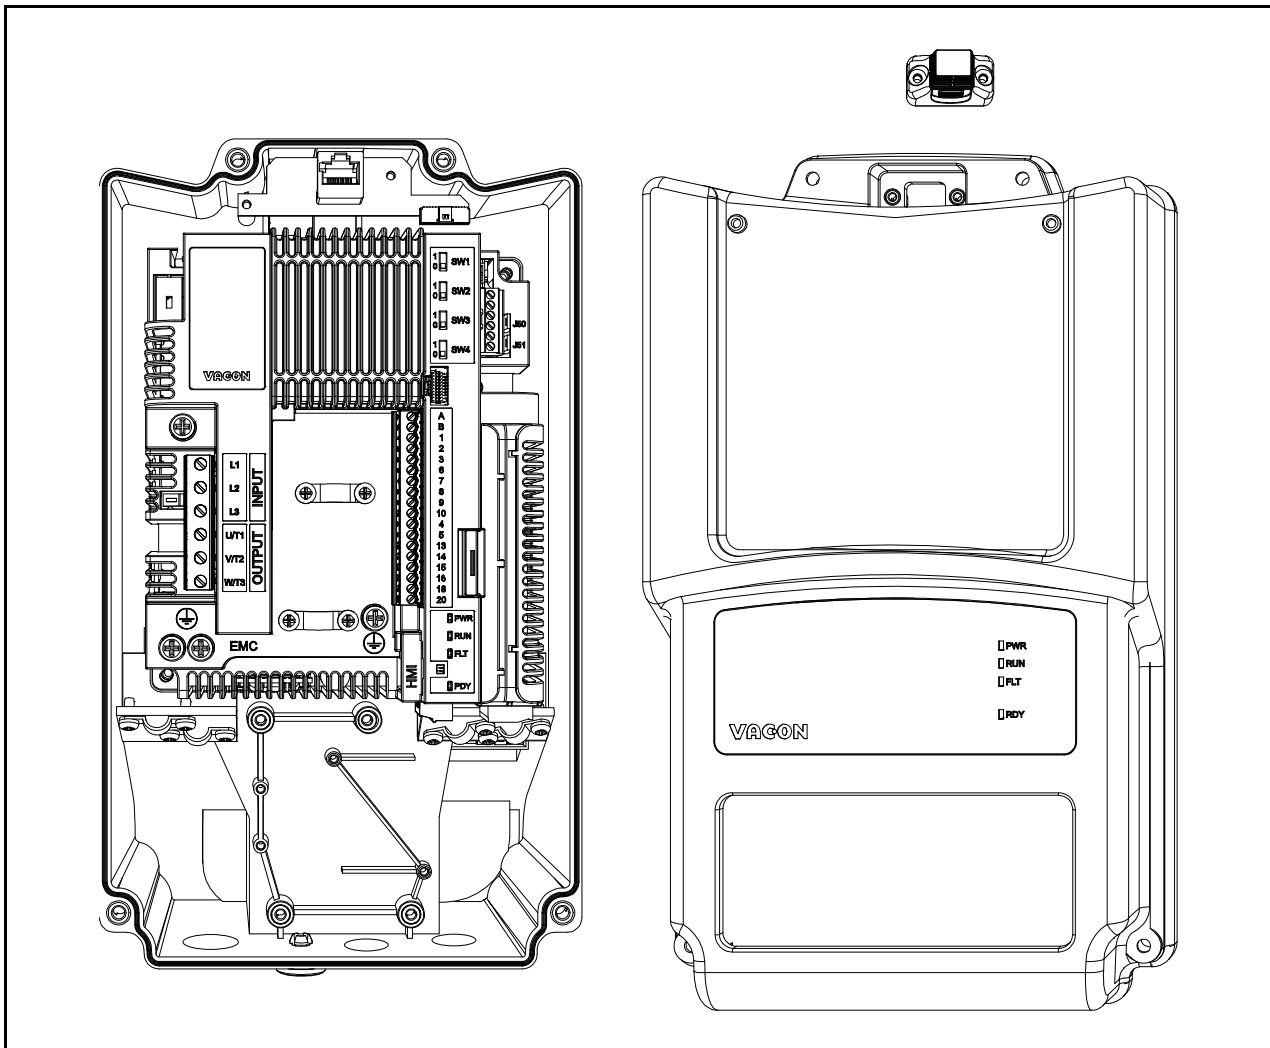

Figure 60. Cover open.
- Remove the cover from the drive. See the Figure 60.